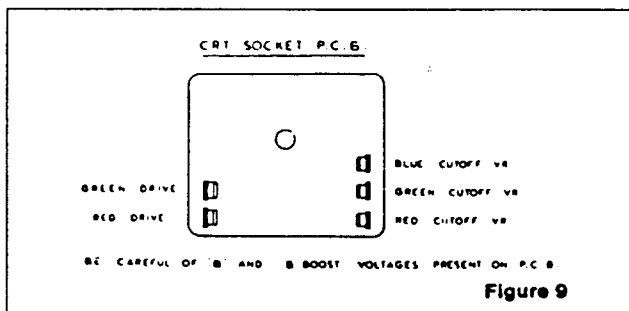

Figure 9
5. Turn off the green and blue fields and adjust set-up controls to produce a red field. (See Fig. 9)